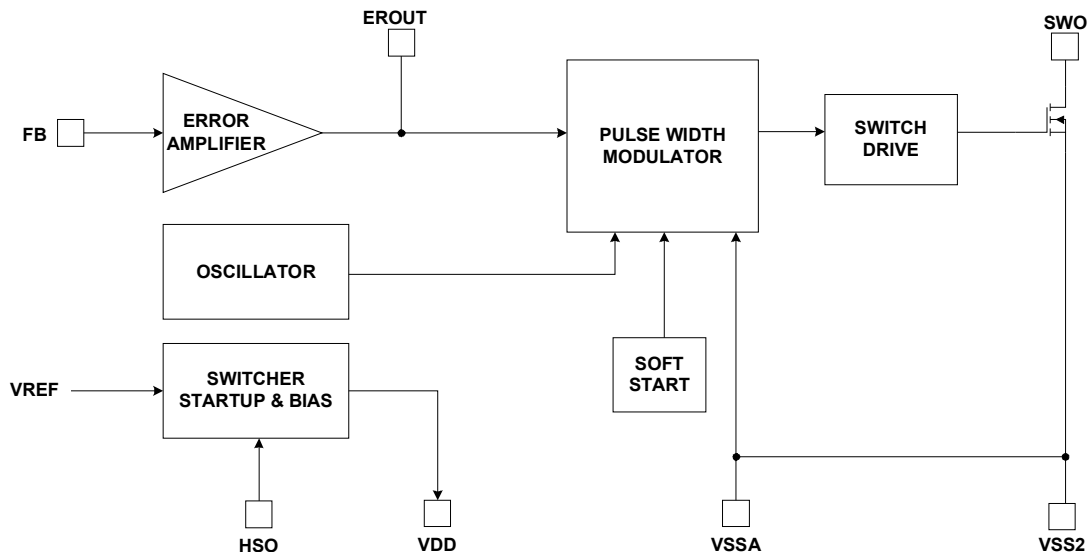

Figure 5. Switching Regulator Block Diagram
Figure 5 gives a representation of the Switching Regulator.
- Updated Figure 5, “Switching Regulator Block Diagram,” on page 14 (formerly Figure 4).